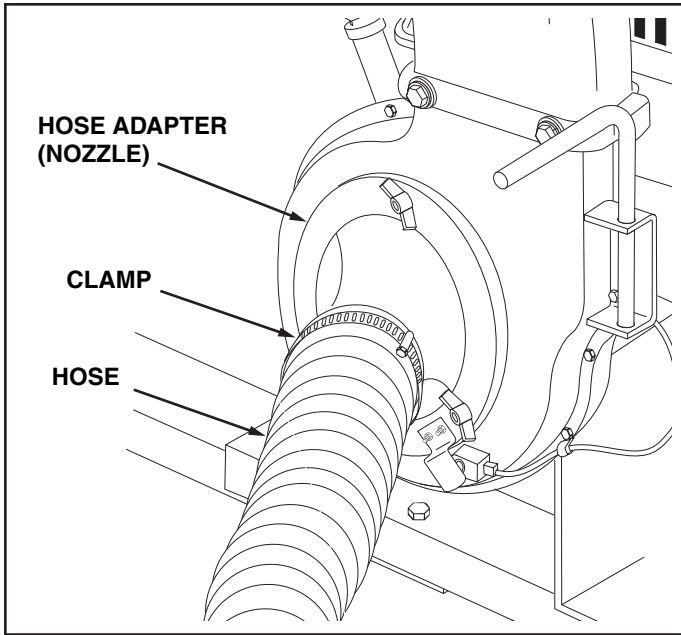

FIGURE 16
26. Place a hose clamp onto the end of the hose. Push the hose onto the hose adapter (nozzle). Tighten the hose clamp onto the hose and hose adapter. **Do not collapse the hose adapter when tightening the clamp.** See figure 16.